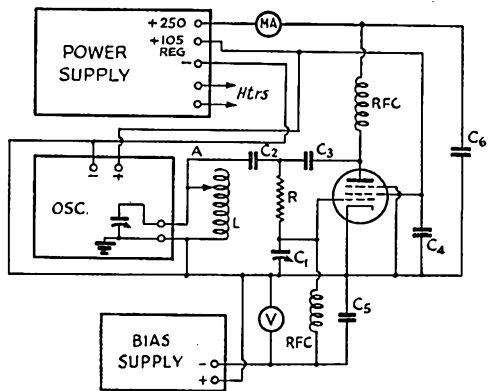

Fig. 14
**Apparatus:** The circuit arrangement for this experiment is shown in Fig. 14. The equipment required includes the